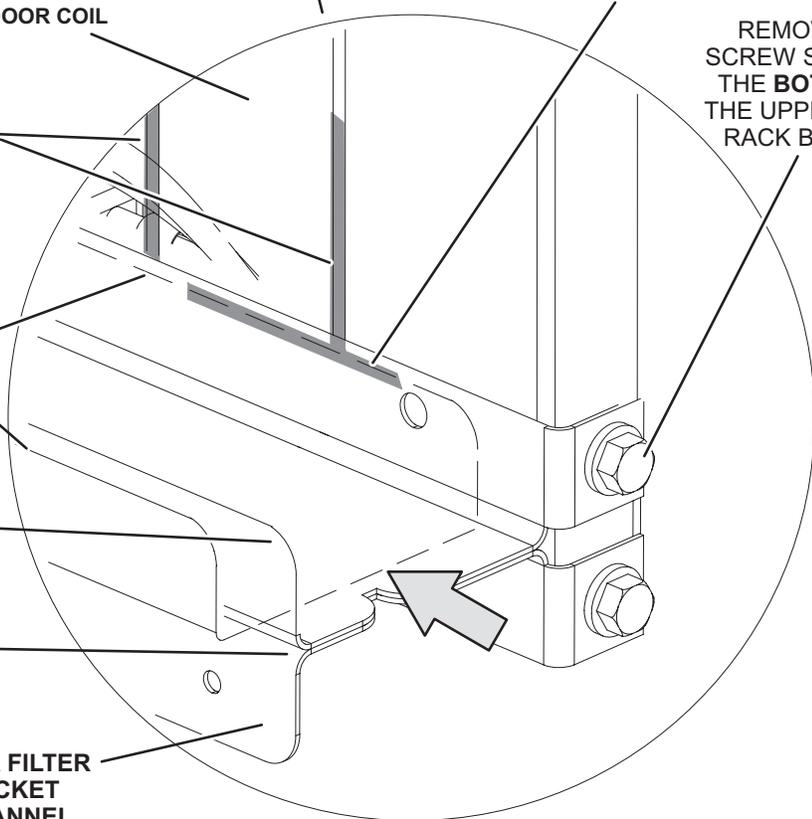

FIGURE 27
The optional, brush-type ionizer produces positive and negative ions to clean air and reduce airborne contaminants. The ionizer was designed to be low maintenance. The device should be checked semi-annually to confirm the brushes are clean for maximum output. The ionizer is located behind the filters. See FIGURE 27.
- 1 - Remove filters, screws securing the top and bottom of the upper filter bracket, and the wire ties the screws hold in place. See FIGURE 27.